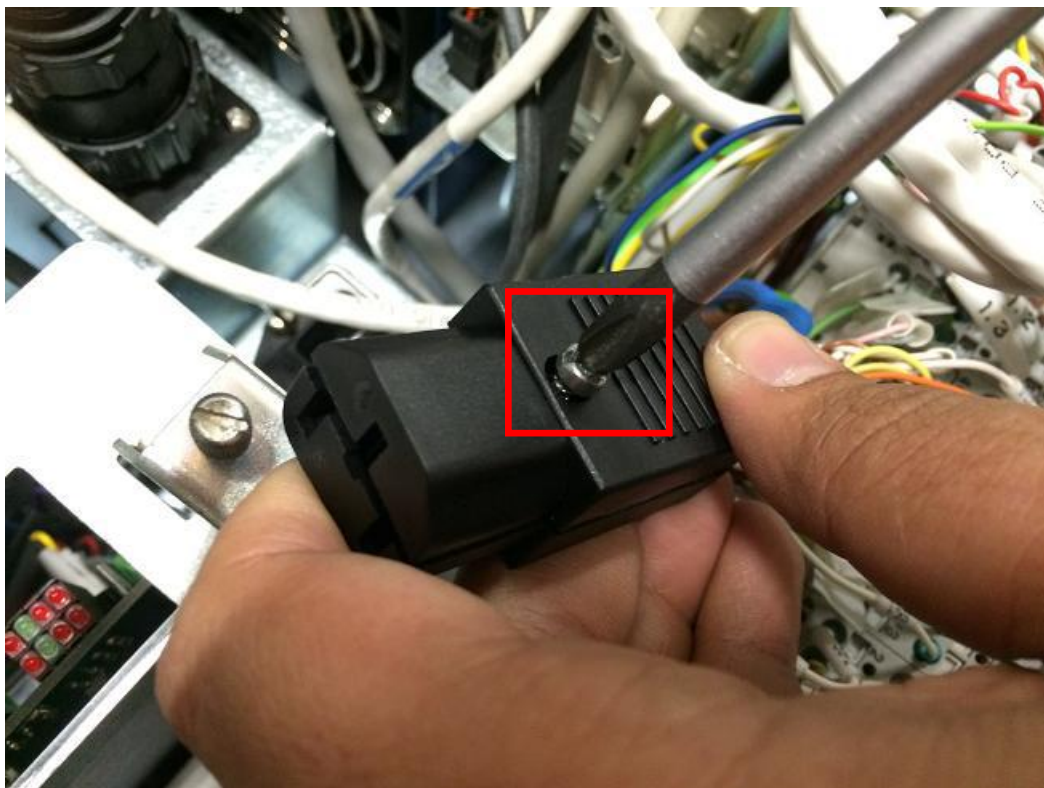

Figure 22
27. Assemble the Insulator Cover at Vertical Type Power Connector as Figure 22.